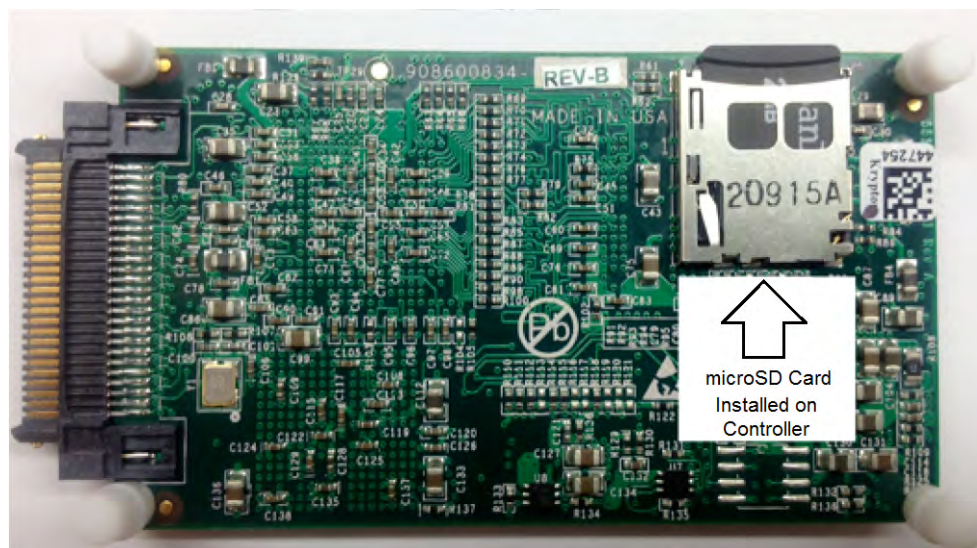
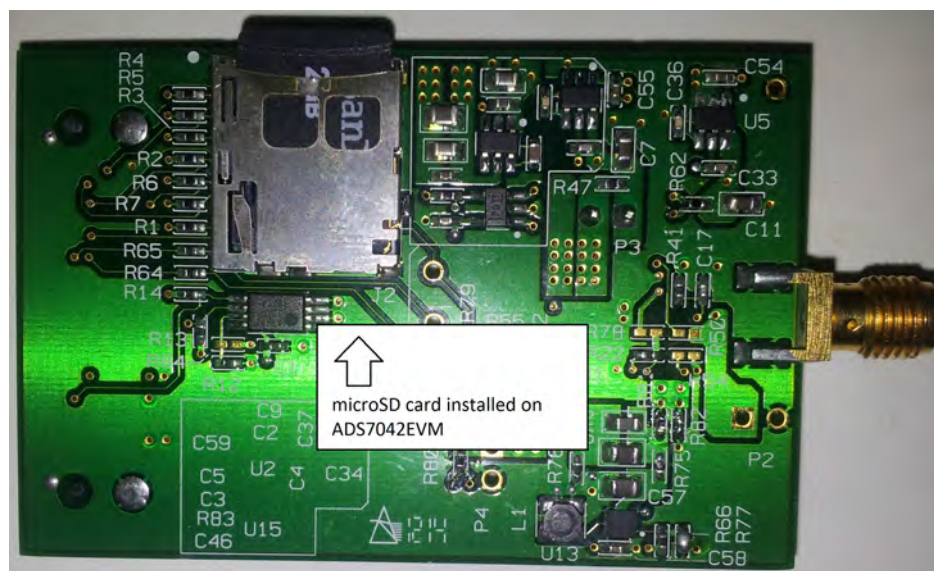

Figure 3. Bottom View of Simple Capture Card with microSD Memory Card Installed
Figure 4. Bottom View of ADS7041EVM Board with microSD Memory Card Installed
As mentioned in the previous section, the ADS7041EVM-PDK includes two microSD memory cards. One is installed on the microSD socket (P6) at the back of the Simple Capture Card as shown in Figure 3. The second microSD memory card is installed on the microSD socket (J2) at the back of the ADS7041EVM as shown in Figure 4.
- Step 2. Verify the microSD card is installed on the back of the Simple Capture Card, as shown in Figure 3.
- Step 3. Verify the microSD card is installed on the back of the EVM board, as shown in Figure 4.